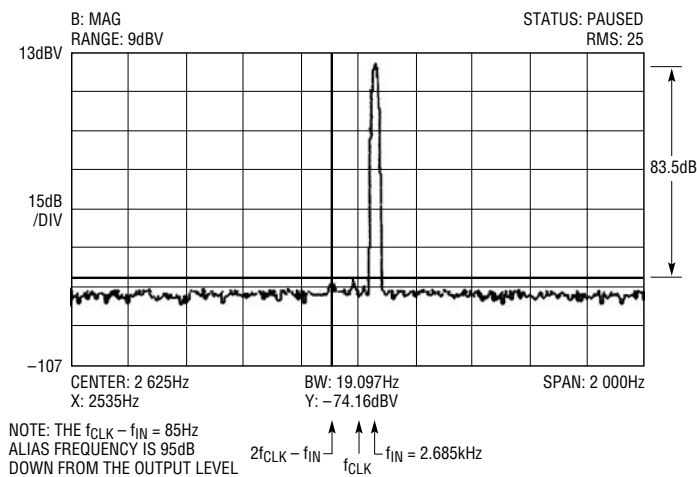

Figure 6a. Output Voltage Spectrum of 1/2 LTC1051 Operating as a Unity-Gain Inverting Amplifier.
5. For unity-gain inverting configuration, all the alias frequencies are 80dB to 84dB down from the output signal (Figures 6a, 6b). Combined with excellent THD under wide swing, the LTC1051/LTC1053 op amps make efficient unity gain inverters.